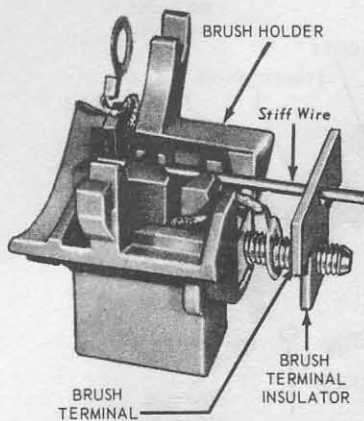

Fig. 10.2 Installing the springs and brushes into the holder assembly (Sec. 11)
- 7 Install the springs and brushes into the holder assembly and retain them in place by inserting a piece of wire through the rear housing and brush terminal insulator as shown in Fig. 10.2. Make sure enough wire protrudes through the rear of the housing so that it may be withdrawn at a later stage.